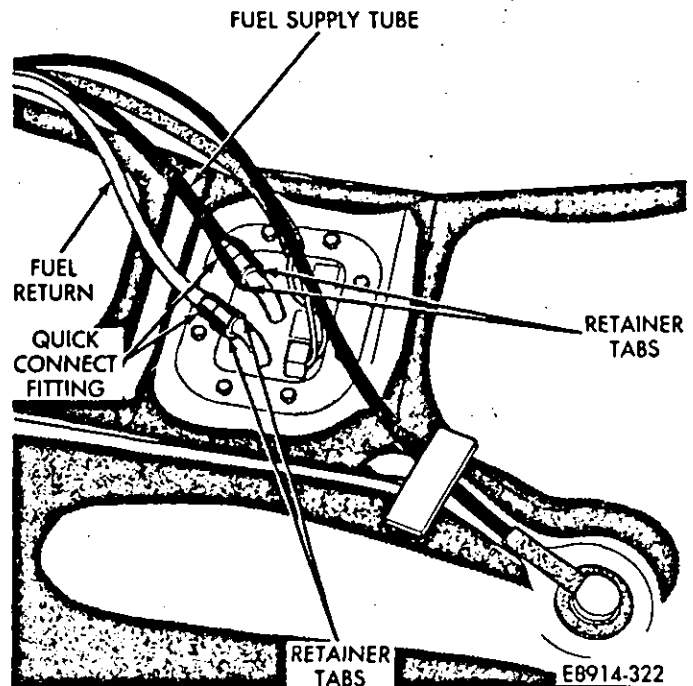
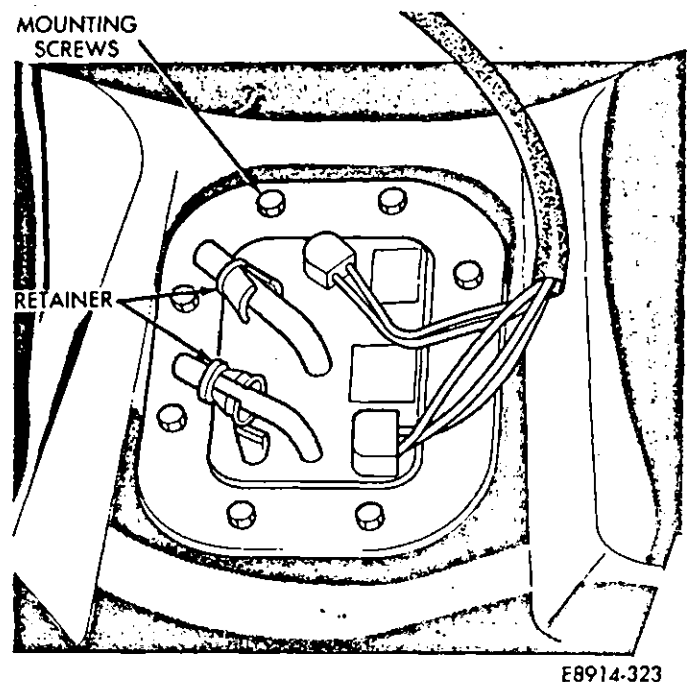

Fig. 14—Disconnecting Fuel Supply and Return Tubes
Fig. 15—Quick-Disconnect Fitting Retainers
(1) Disconnect the battery negative cable.
(2) Remove fuel tank. Refer to Fuel Tank Removal.
(3) Disconnect the quick-connect fittings of the black fuel supply tube and gray fuel return tube by squeezing retainer tabs and then pulling connectors away from nipples (Fig. 14). Retainers will stay on the nipples (Fig. 15).
(4) Remove bolts that hold fuel pump/sender unit face plate to the fuel tank (Fig. 15).